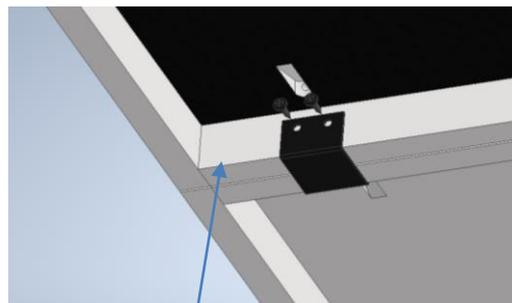

Figure 3
3. Position and secure another U-Bracket 2 inches from the back of the unit so that it encases the end panels of both units using the screws provided(Figure 3)